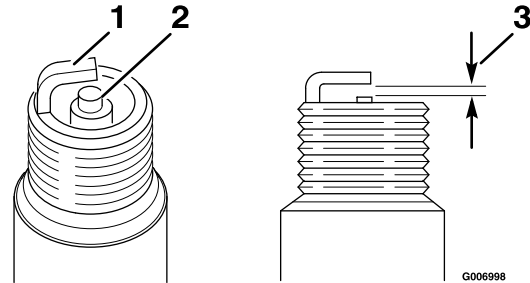

Figure 26
1. Look at the center of the spark plug (Figure 26). If you see light brown or gray on the insulator, the engine is operating properly. A black coating on the insulator usually means the air cleaner is dirty.
2. Check the gap between the center and side electrodes (Figure 26). Bend the side electrode if the gap is not correct.